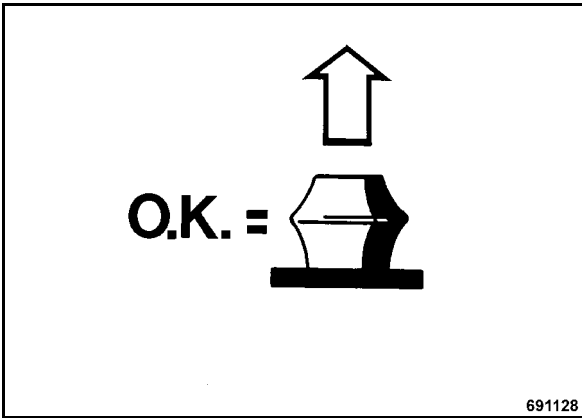

Fig. 84
- Check the air filter service indicator (Fig. 84).